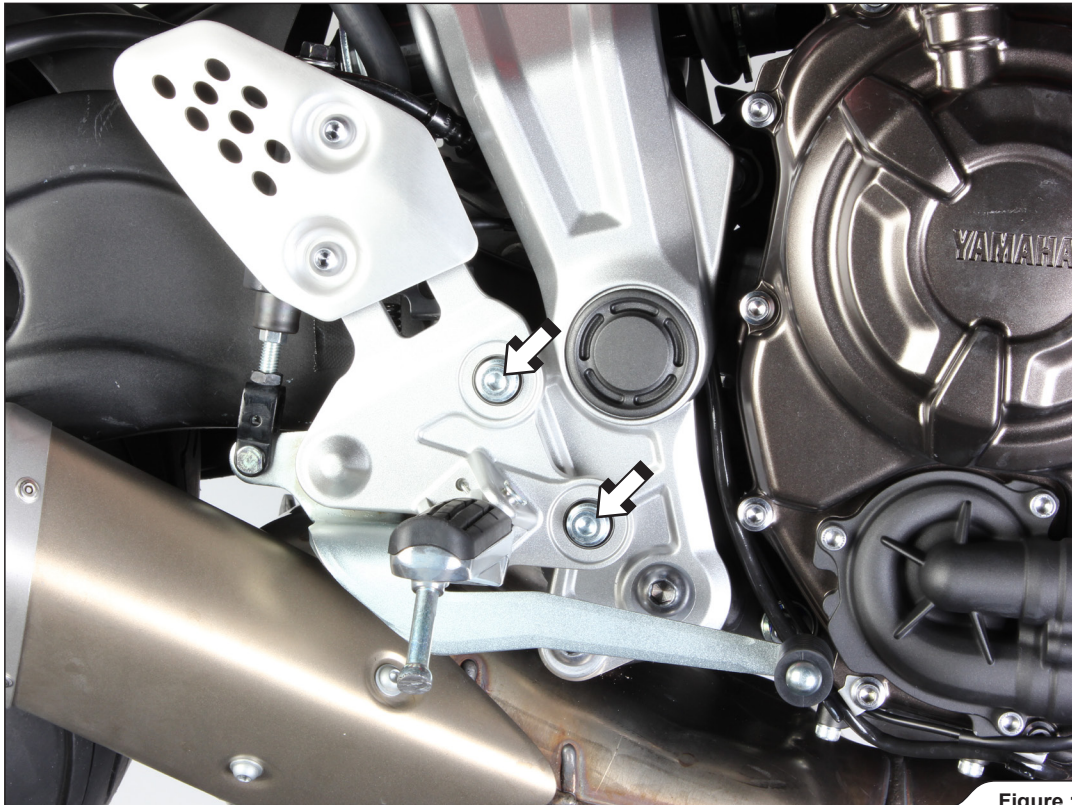

Figure 1
2. Unscrew the marked right footrest bolts, lambda sensor, headers' flange nuts, muffler's bolts and carefully remove the stock exhaust system off the motorcycle (Figure 1, 2, 3, 4, 5).